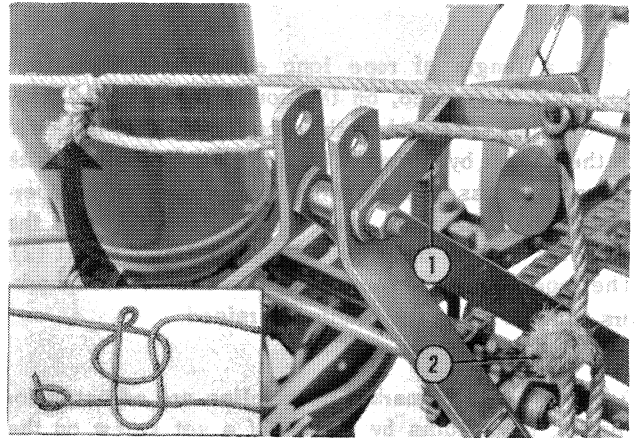

Figure 28
When the markers are attached on both sides of the planter, the 3/8" control rope can be attached. Tie an end of the rope to one of the lift hooks. Raise the opposite marker assembly until it forms an angle of approximately 50° to the ground and tie the other end of the rope to the lift hook on that marker. Cut off the excess rope. Attach the pulley support (1), Figure 28, as shown. Tie a knot at one end of the excess piece of rope and pass it through the loop of a slip knot tied in the center of the cross rope. Pass the other end of the excess rope through the marker pulley. The free end of the control rope can be attached to any safe spot on the tractor which is within convenient reach of the operator.
Cut a length of rope long enough to reach from point (2), Figure 28, on the control rope to the tractor drawbar. The end of this rope should be attached to the hanger by means of the "S" hook provided with the marker assemblies. When the planter is in operating position with one marker lowered, tie the opposite end of the rope to the control rope at (2). The rope should be taut enough to enable both markers to raise when the planter is raised.